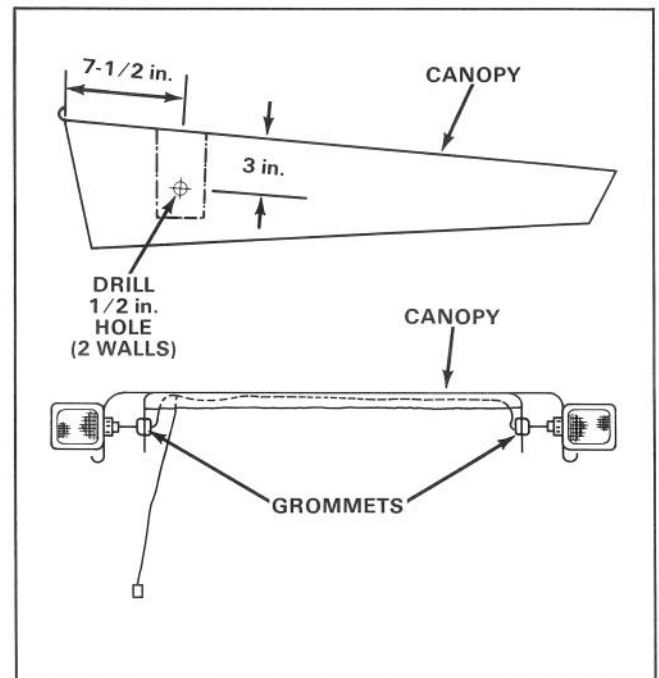

Figure 9
1. Measure and mark 3 in. down from the top of the ROPS canopy (Fig. 9).
2. Measure 7-1/2 in. from the top rear of the canopy and center punch at the intersection with the 3 in. mark (Fig. 9).
3. Drill 1/2 in. holes through the outside of the canopy and the inside wall in line with the outside hole (Fig. 9).
5. Install a P/N 237-88 Grommet into the inner wall holes on each side (Fig. 9).